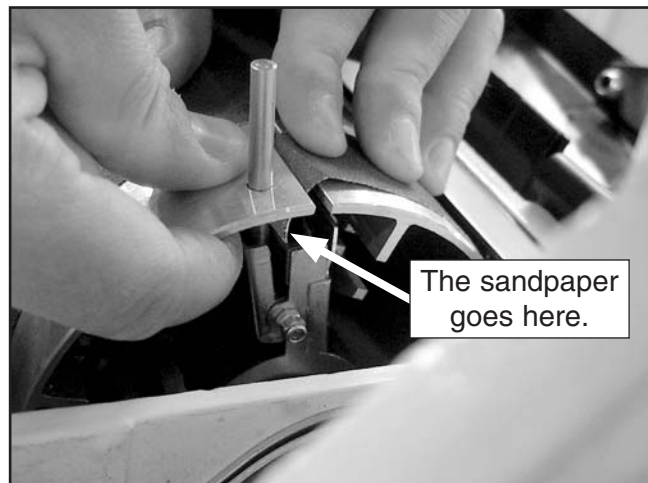

Figure 22. Inserting the sandpaper end between the two sides of the clamp.
10. Press the spring lever toward the clamp to open it, then fully insert the end of the sandpaper strip between the two sides of the clamp, as shown in **Figure 22**.